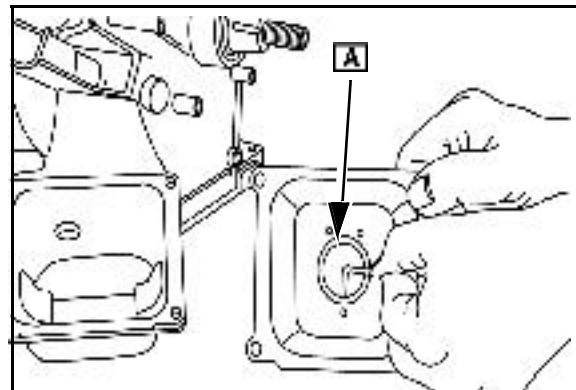

Fig. 28
- Replace the breather if the fiber disc valve is stuck or binding. **0.045 in. (1.14 MM)** wire gauge ([A] Fig. 28) should not enter the space between the fiber disc valve and body. Do not force the gauge.